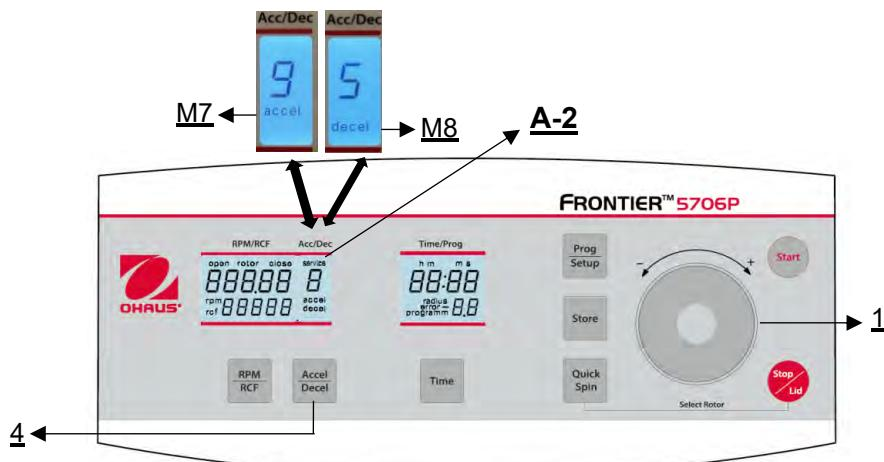

Figure 19
This function is activated through the key **"Accel/Decel"** (4) (refer to **Figure 19**).